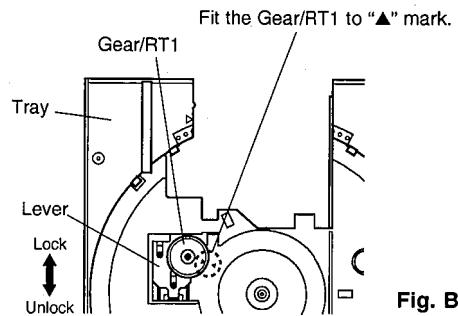

Fig. B-1
- 1) Slide the Lever so that the Gear/RT1 becomes free. (Fig.B-1)
- 2) With the "▲" mark on the Gear/RT1 aligned with the same mark on the Tray, lock it with the Lever. (Fig.B-1)